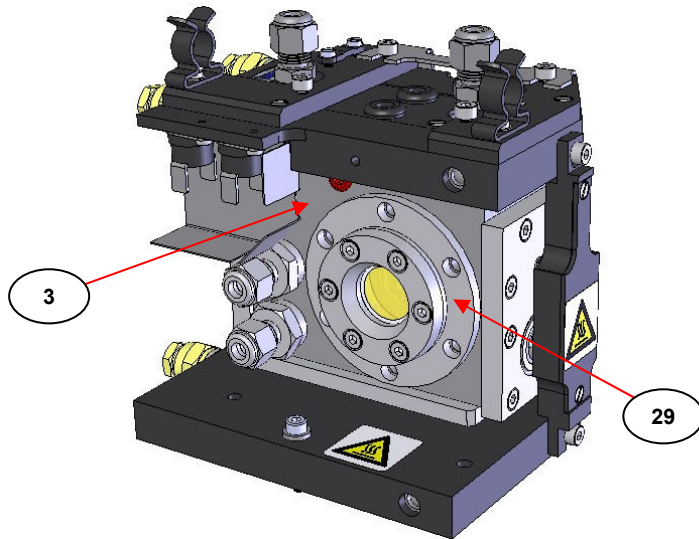
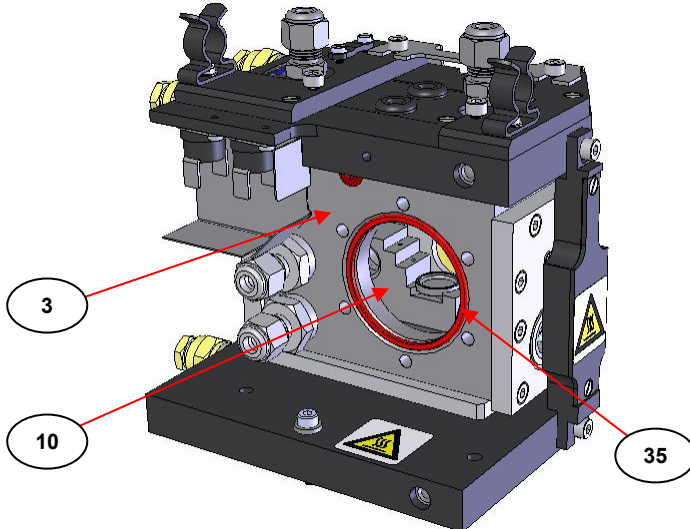
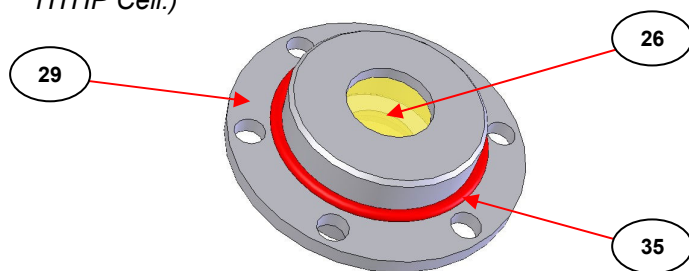

Fig 14. HTHP Cell with Wide Heat Shield (32) and Window Assembly Fixing Bolts (30) Removed
Fig 15. HTHP Cell with Wide Heat Shield (32) and Window Assembly Fixing Bolts (30) and Window Assembly (11) Removed
Fig 16. Window Assembly (11) with Silicone O-ring (35) Fitted
Fig 14. and **Fig 15.** show the stages for removal of the pressure certified window assembly (11) covered by the wider heat shield (32). With the heat shield (32) removed, the six fixing bolts (30) are undone and removed from the mounting ring flange plate (29).
When the window assembly (11) has been removed, the silicone O-ring may come away attached to the flange plate (29) or it may be retained in the chamfered groove of the aperture of the HTHP Cell body (3) as seen in Fig 14. Before the window assembly (11) is to be refitted, the silicone O-ring seal (35) should be inspected for its condition and cleaned. If there is any damage or imperfections, then it should be replaced with new.
In refitting of the window assembly (11) for its correct sealing, it is easier to do so with the silicone O-ring (35) fitted to the flange plate (29) as shown in Fig 16. rather than it being fitted into the aperture of the cell body (3) as shown at Fig 15.